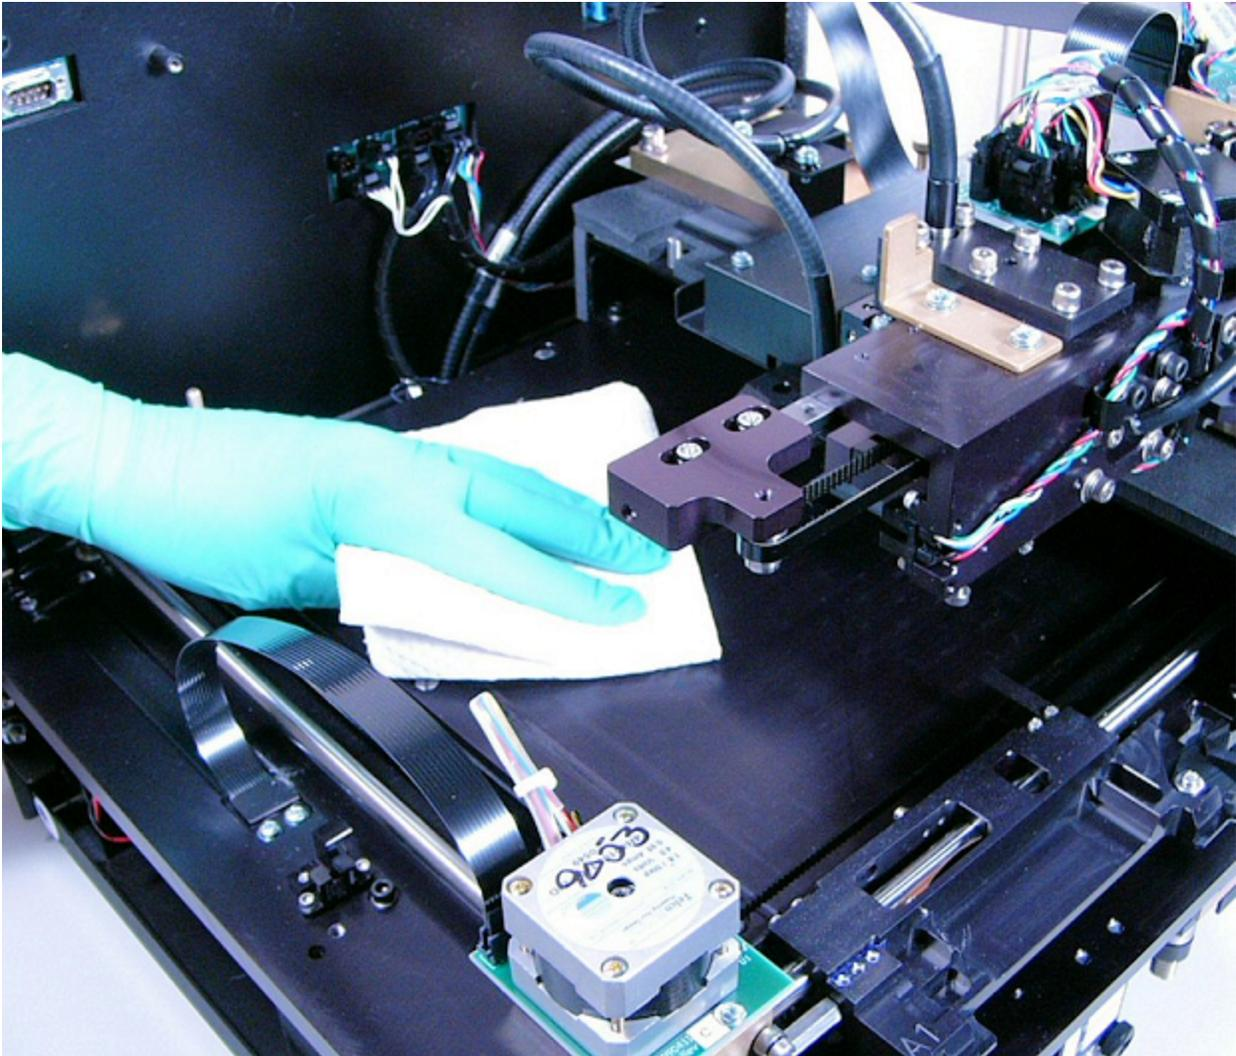

Figure 5-11: Cleaning the inside of the reader
2. Moisten (do not soak) a clean cotton cloth with water, or with water and mild detergent, or alcohol. Wipe all sides of the plate carrier. Wipe the instrument's horizontal surface. See Figure 5-11.